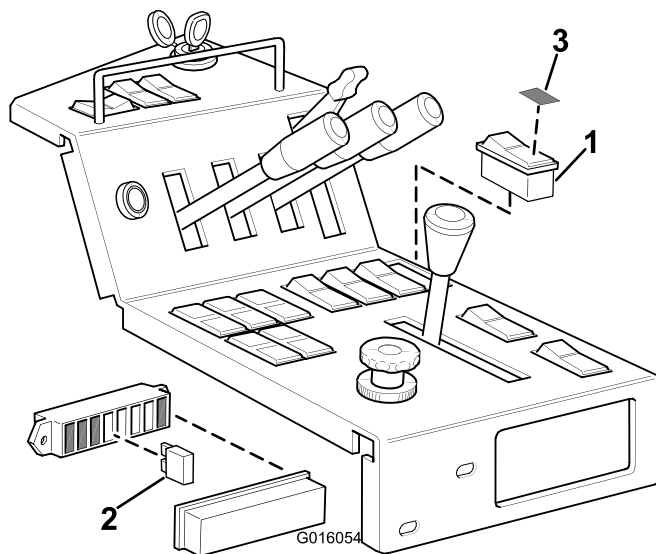

Figure 2
8. Remove one of the blanking plugs behind the parking lever. Push the beacon switch into position (Figure 2).
9. Remove the fuse box cover and connect the 5A fuse next to the 3A fuse (Figure 2).